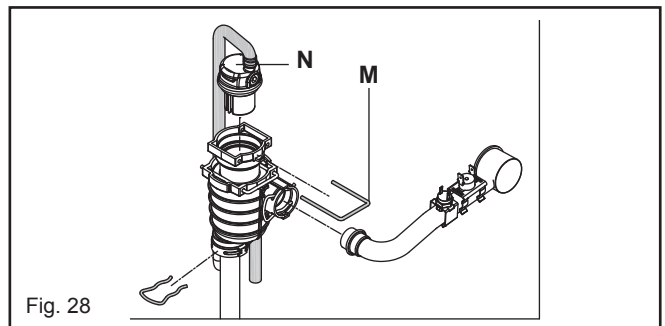

Fig. 28
6.6.1 TOP AUTOMATIC AIR RELEASE VALVE (fig. 28)